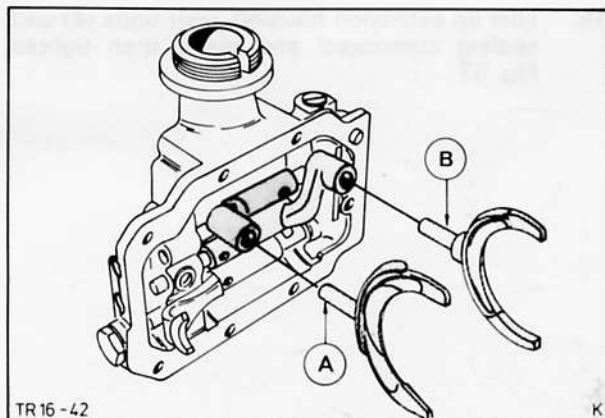

Fig. 60. Fit selector forks
53. Install selector forks for 1st/2nd and 3rd/4th gears with the cast number facing the front, Fig. 60.